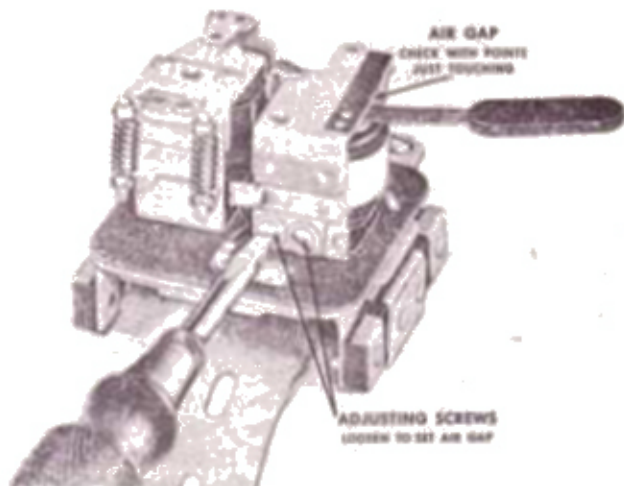

Figure 7—Cutout relay air gap check and adjustment (1118200 series). Battery must be disconnected when this check is made.
**AIR GAP (1118200 Series)**—Place fingers on armature directly above core and move armature down until points just close, and then measure air gap between armature and center of core (Fig. 7). To adjust air gap, loosen two screws at back of relay and raise or lower armature as required. Tighten screws after adjustment.